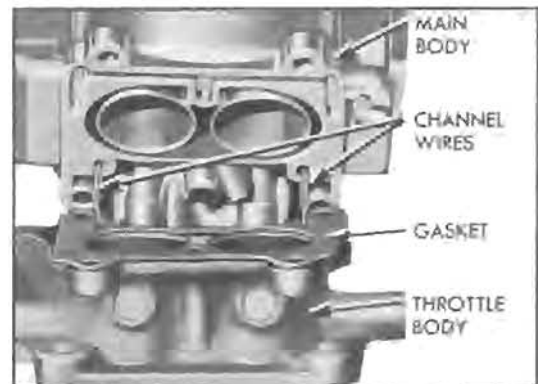

Figure 3-71—Location of Idle Channel Wires
9. Place *new* main body gasket on throttle body. Insert *short* ends of idle channel wires in idle channels of throttle body and guide opposite ends into idle channels in main body as it is placed on throttle body. See figure 3-71. Install long main body attaching screws on same side as idle needle valves and short screws on opposite side, using lockwashers on all screws.